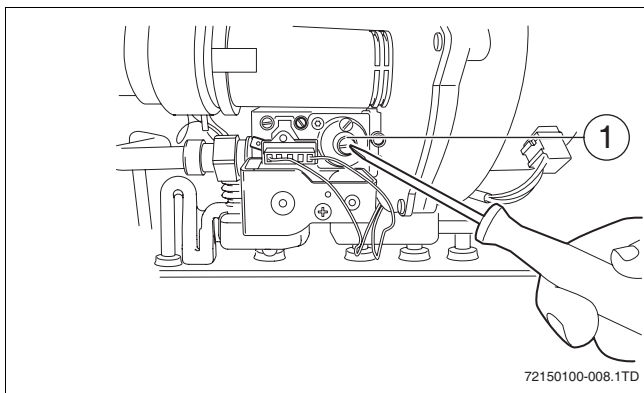

Fig. 9 Setting the gas/air ratio
- ▶ If the gas/air ratio is not correct it can be adjusted using the adjustment screw ($\rightarrow$ fig. 9, [2]). The adjustment screw is located behind the cover screw.